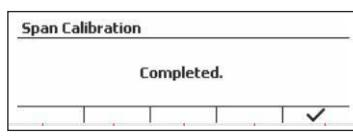

Figure 12
6. The message "Completed" will display on screen. (See Figure 12)